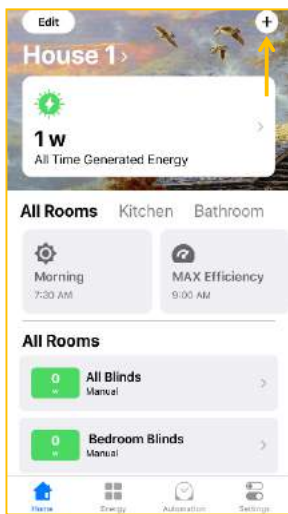

Figure 20
10.6.1. Click **+** in the top right corner to start (Fig. 20).